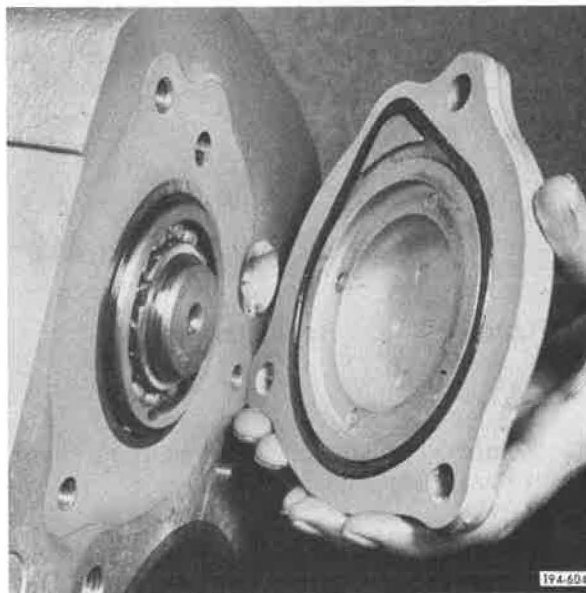

Figure 5-271. Removing Bearing Cover
2. Remove rear countershaft rear bearing cover. See Figure 5-271.